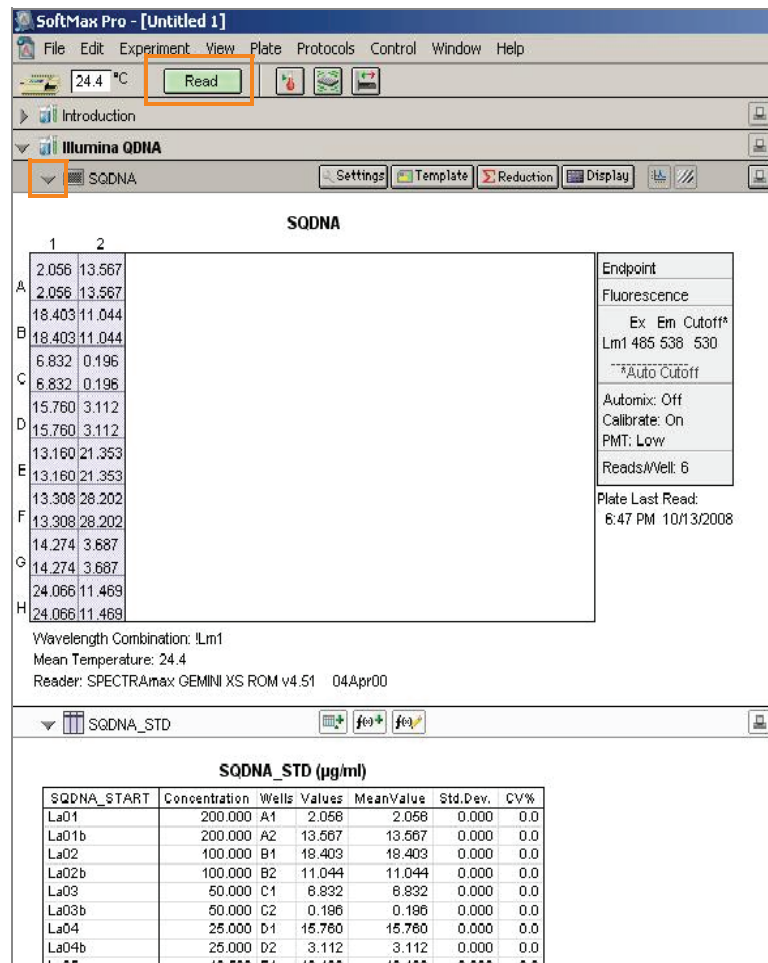

Figure 24 Read the Sample QDNA Plate
11. Click the blue arrow next to **SQDNA** and click **Read** (Figure 24).